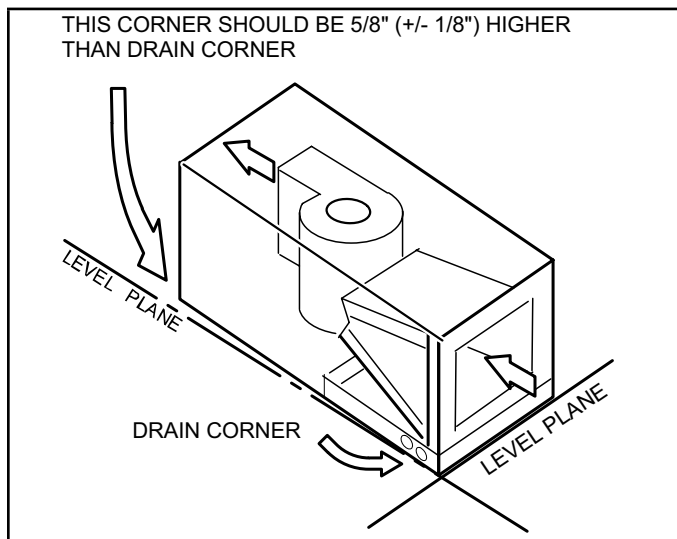

Figure 16. Sloping the Unit for Proper Drainage
- 4 - Set unit so that it is sloped toward the upflow drain pan end of the unit and level from front to back of unit (see Figure 16).
- 10 - Set unit so that it is sloped shown in Figure 16. Connect return and supply air plenums as required using sheet metal screws.
Make sure the unit is sloped (similar to the slope shown in Figure 16) so that the drain pan will empty completely without water standing in the pan.